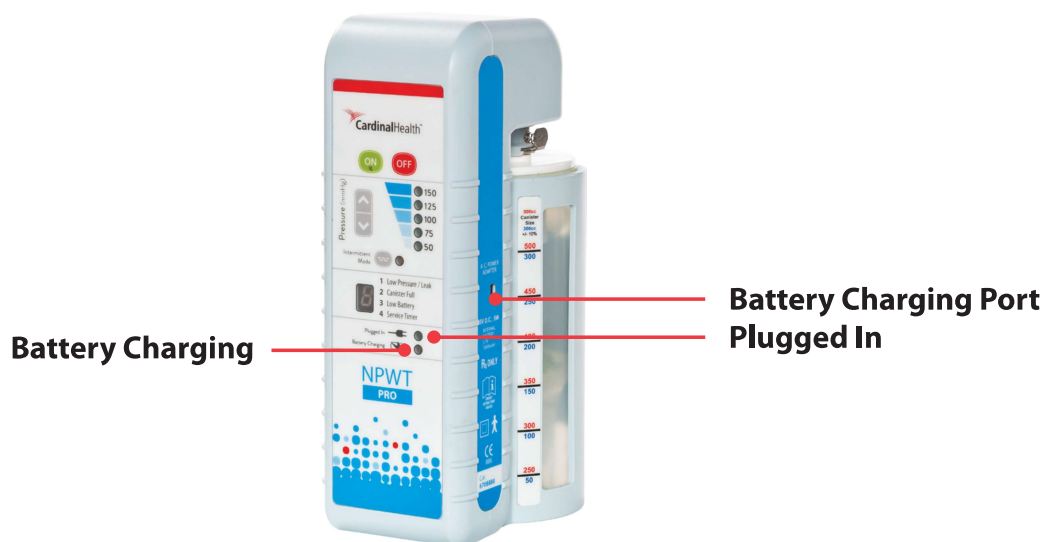

Figure 2
2. Insert the A.C. Power Adapter into the Battery Charging Port on the side of the PRO/PRO to GO (**Figure 2**).
3. When the PRO/PRO to GO is connected to an outlet, the green light next to the Plugged In symbol comes on (**Figure 2**). If the battery is charging, the yellow light next to the Battery Charging symbol comes on. Once the battery is fully charged, the light goes off.